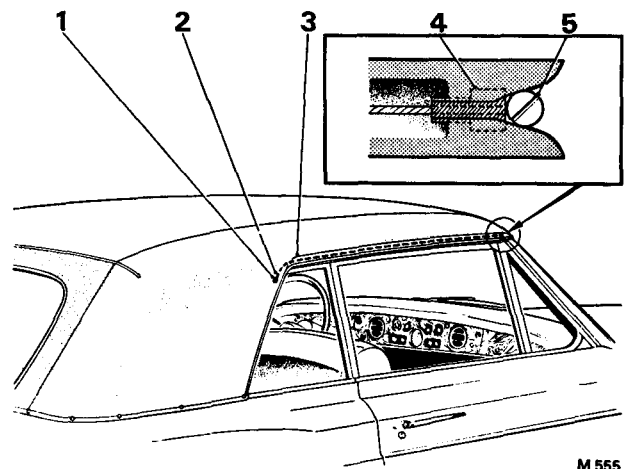

FIG. S123 HOOD OUTER COVERING SIDE TENSION CABLE (Convertible Cars)
6. Lift one side flap of the hood outer covering to expose the front end of the hood tensioning cable (see Fig. S123); remove the screw locking the cable nipple in the slotted channel then detach the cable from the bracket. Withdraw the cable from the tunnel in the side of the hood outer covering.